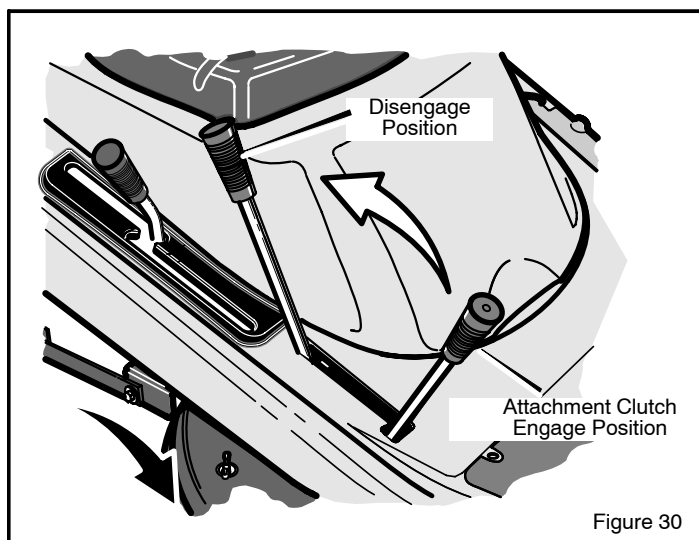

Figure 30
2. Move the **attachment clutch** to the **DISENGAGE** position (Figure 30).